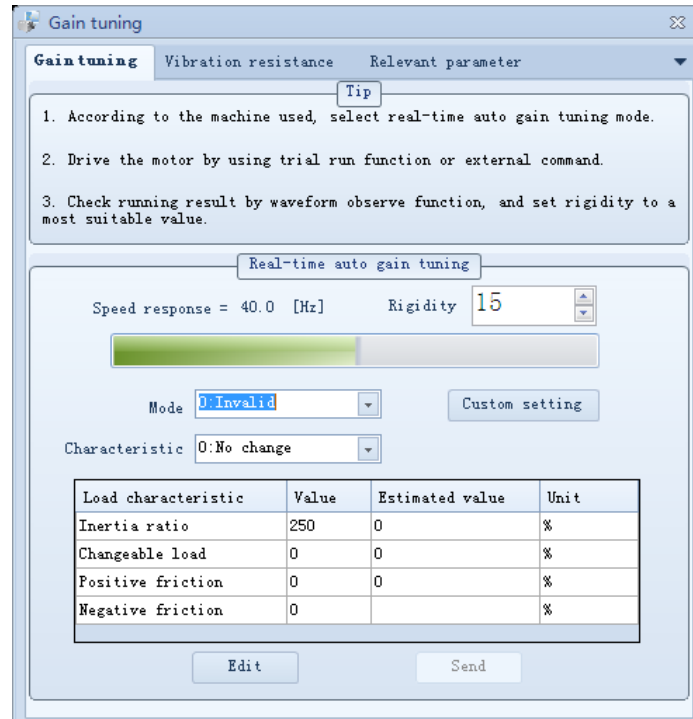

Fig. 3-19 Gain tuning window
- 1) As shown in Fig. 3-19, set mode and characteristic according to the machine. When “Mode” is set to “6: User define”, special functional rules can be customized.